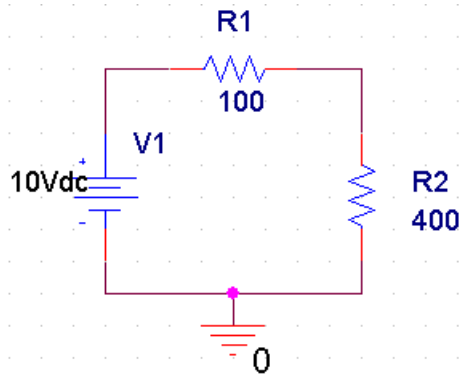

Figure 12: Final circuit of potential divider, fully connected, with the correct values.
Change the values of the resistances and voltage to those shown in figure 12 on page 11. I'll explain how to wire the components next.
Your circuit should now resemble figure 12 on the next page. Here are some tips for wiring.
- Capture adds blobs to junctions where wires are joined. You can see one for the ground connection in figure 12. There should not be blobs anywhere else – on the ends of components, for instance. If there are, remove them with the Junction tool from the toolbar or Place > Junction.